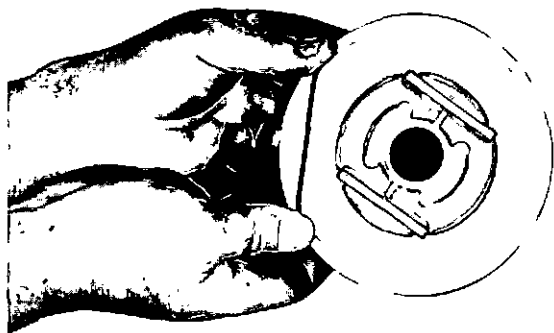
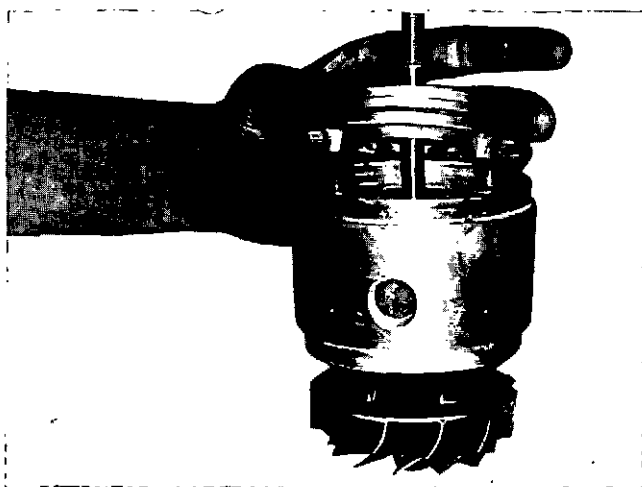

Fig. 2-10, (T3518). Installing O-ring onto the oil seal plate
Fig. 2-11, (T3519). Installing the oil seal plate onto the bearing housing
7. Lubricate and install the new black O-ring in the groove of the oil seal plate, Fig. 2-10. Coat the bearing housing bore with a lubricant. Place the oil seal plate over the shaft and align so the retainer of the oil seal plate covers both sides of the turbocharger bearing flange, Fig. 2-11. Push the oil seal plate in the bearing housing until the plate seats on the shoulder.